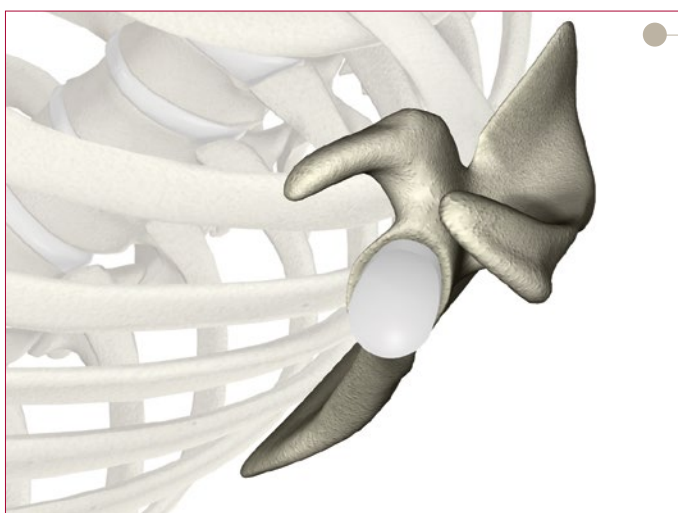

Figure 39
- ▶ To use the drill driver in variable angled mode, loosen the drill bit by tightly grasping the metal collar and slowly activating the drill in REVERSE mode. The cone shaped end of the drill bit will now be outside of the metal sleeve (Figure 39, Top).
- ▶ To use the drill driver in a straight or fixed angle mode, tighten the drill bit by tightly grasping the metal sleeve and slowly activating the drill in FORWARD mode. The cone shaped end of the drill bit will sit flush to the metal sleeve (Figure 39, Bottom).